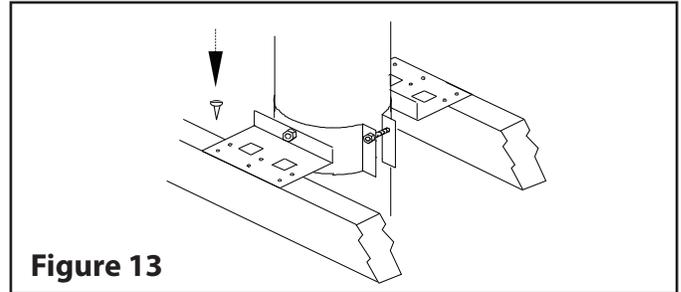

Figure 13
Step 1. Install the roof radiation shields in the roof joists. These shields consist of four metal plates. Nail one plate to each side of the joist using (2) 2-1/2" nails.
Step 2. Slip the assembled Roof Support down over the stainless steel chimney until its brackets rest on the roof or floor. Tighten the collar around the chimney, (see Figure 13).
Step 3. Center the chimney and nail or screw the support to the roof or floor using (8) - 2-1/2" nails or (8) No. 8 - 1-1/4" wood screws. (Figure 13).